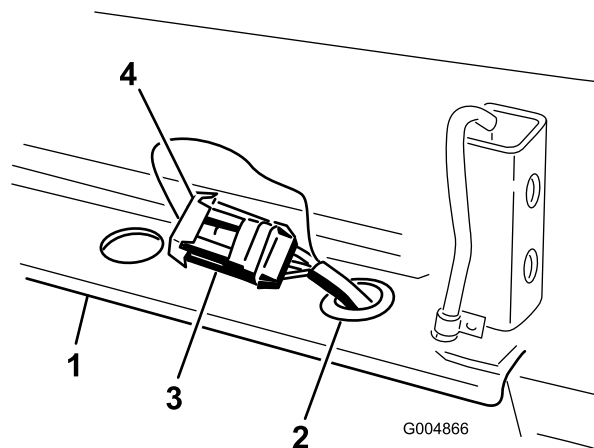

Figure 25
1. Insert the wires from the large harness connector down thru the right grommet in the rear frame mount (Figure 25).